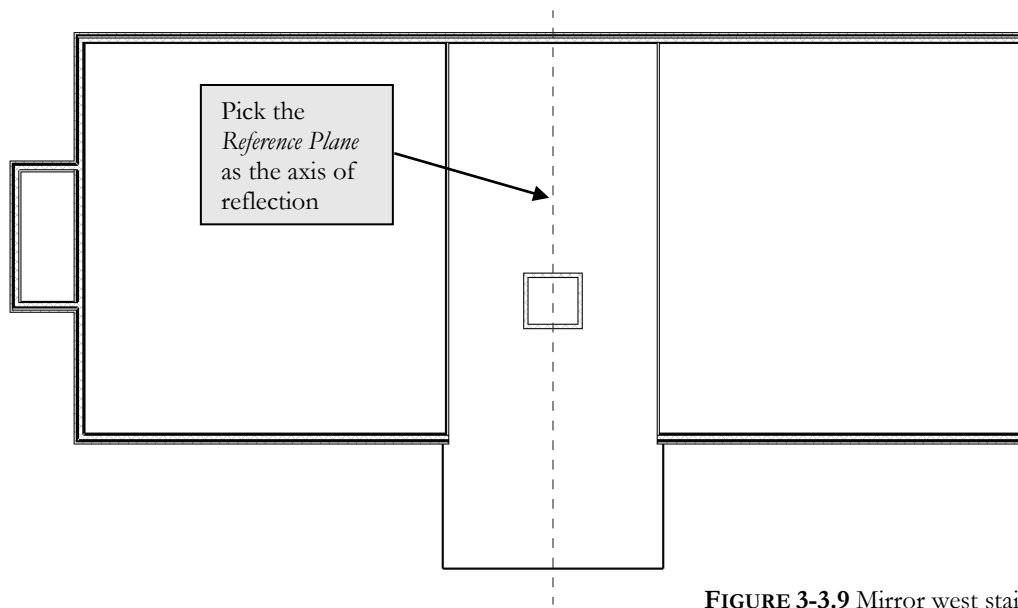

FIGURE 3-3.9 Mirror west stair
25. Draw a Reference Plane snapped to the vertical, centered on the South atrium wall (See Figure 3-3.9).
26. Erase the four walls of the East stair shaft; this will include the main east wall of the office building (Figure 3-3.9).
27. Select the six walls at the West stair (Figure 3-3.9).
28. Select the **Mirror - Draw Axis** tool (on the *Ribbon*) and then select the *Reference Plane* (Figure 3-3.9).